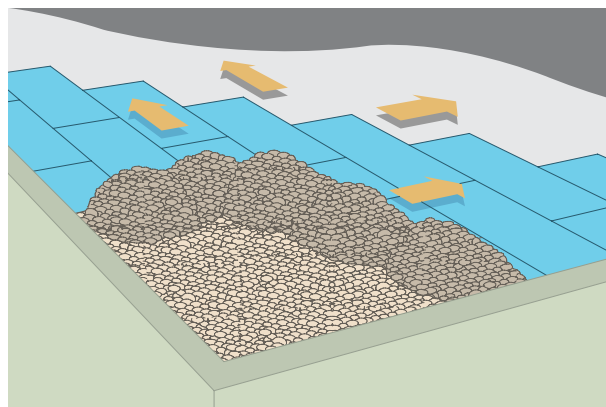

Figure 18
8. Lay the ballast layer progressively. Work on an advancing front away from the point of access so all ballast material is carried across a protected waterproof layer (Figure 18).